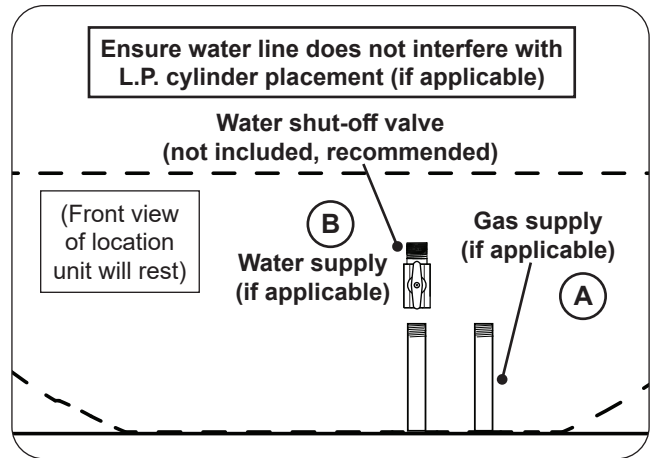

Fig. 27-1 Route gas and water supply (if applicable)
1. Ensure the gas supply is properly routed into the area that the unit will rest over (see Fig. 27-1, A).
1. Plumb the water supply into the area that the unit will rest over (see Fig. 27-1, B).
**Note:** It is recommended that a water shut-off valve (not included) be attached to the water supply line. It can be installed remotely or at the end of the water supply line. See Fig. 27-1, B for an example.